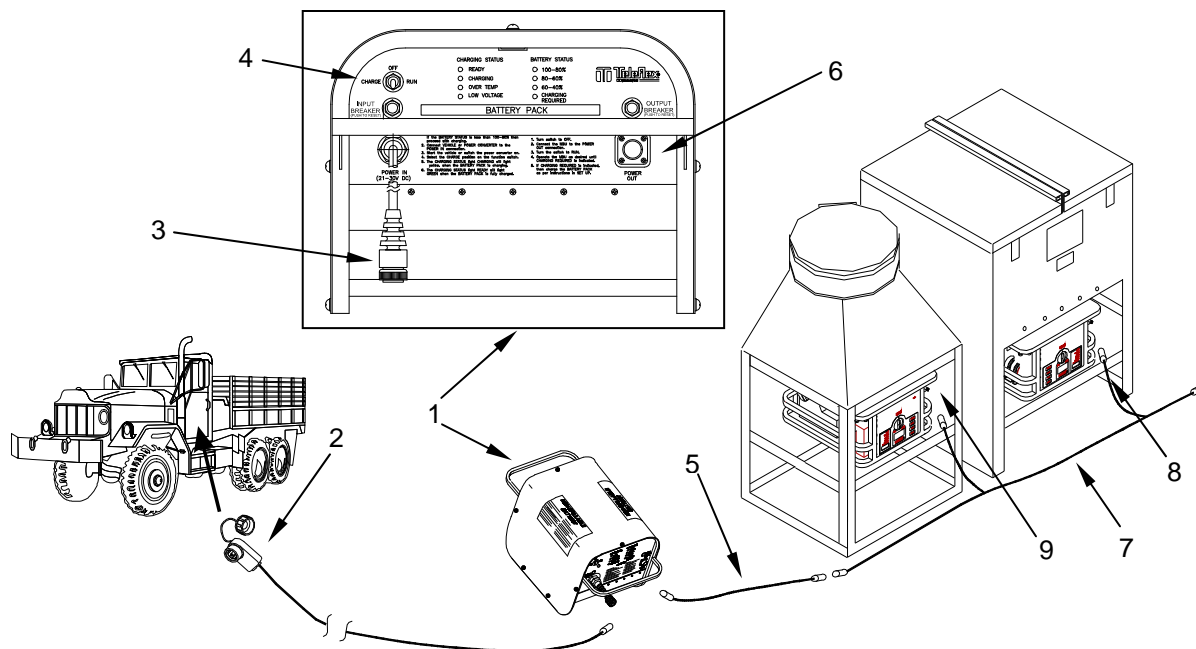

Figure 6. Connecting Power Cables Using Vehicular Power and Battery Pack.
1. If the battery pack (Figure 6, Item 1) is used to supplement vehicular power, connect the NATO adapter cable (Figure 6, Item 2) to the power input connector (Figure 6, Item 3) of the battery pack.
2. With the battery pack 3-position function switch (Figure 6, Item 4) OFF, connect one end of the 25-ft (24VDC) extension (Figure 6, Item 5) (if required for additional length) to the Battery Pack Power Output Connector (Figure 6, Item 6).
3. The 2-branch cable (Figure 6, Item 7) can then be connected to the opposite end of the 25-ft extension cable (Figure 6, Item 5).
4. The cable branches (Figure 6, Item 8) are then connected to the power-in receptacle of the individual burners (Figure 6, Item 9).